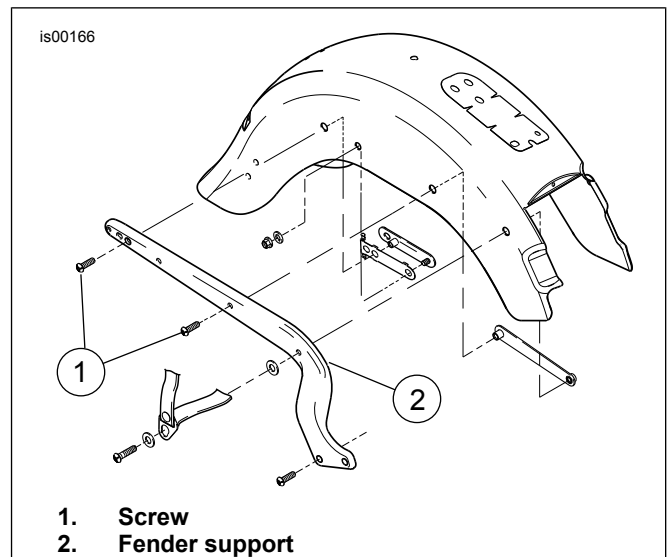
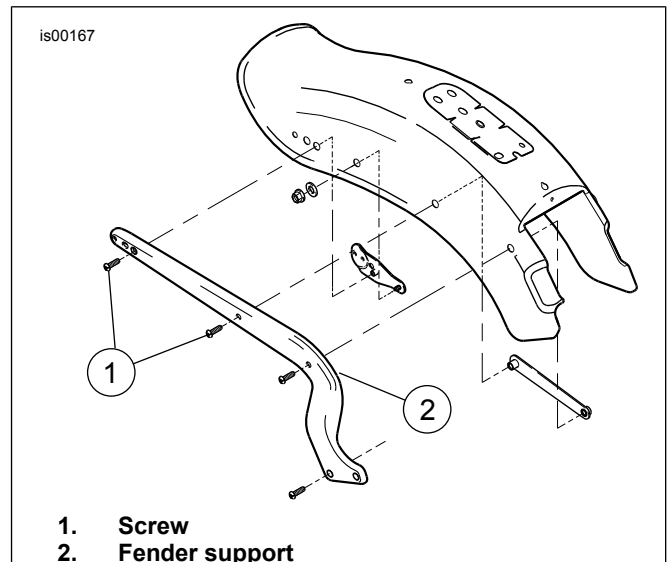

Figure 3. Fender Support Hardware (2006 FLSTF)
Figure 4. Fender Support Hardware (2006 FXST/S/B)
- See Figure 3 and Figure 4. Remove and discard stock screws (1) from fender support (2).
1. See Figure 4. Remove and discard stock screws (1) from fender support (2).